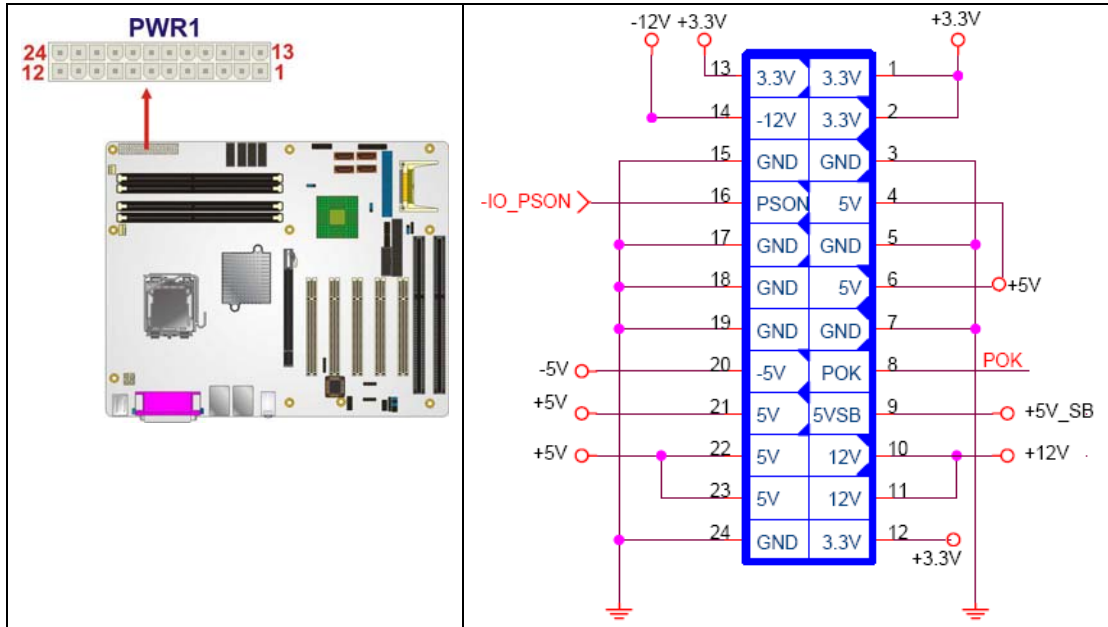

Figure 4-3: ATX Power Connector Pinout Locations
- CN Location:** See Figure 4-3